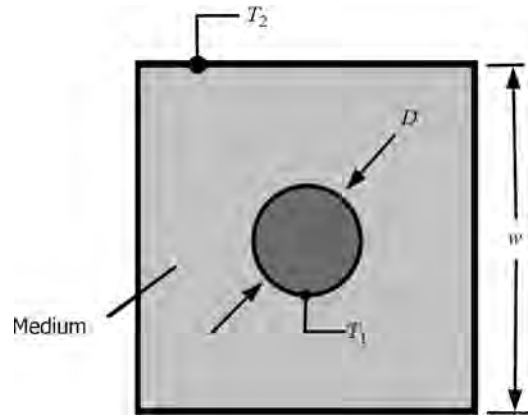

FIGURE 8.12 Heat transfer shape factors.
- Two-dimensional heat transfer in a medium bounded by two isothermal surfaces at T_1 and T_2 may be represented in terms of a conduction shape factor S (Figure 8.12).